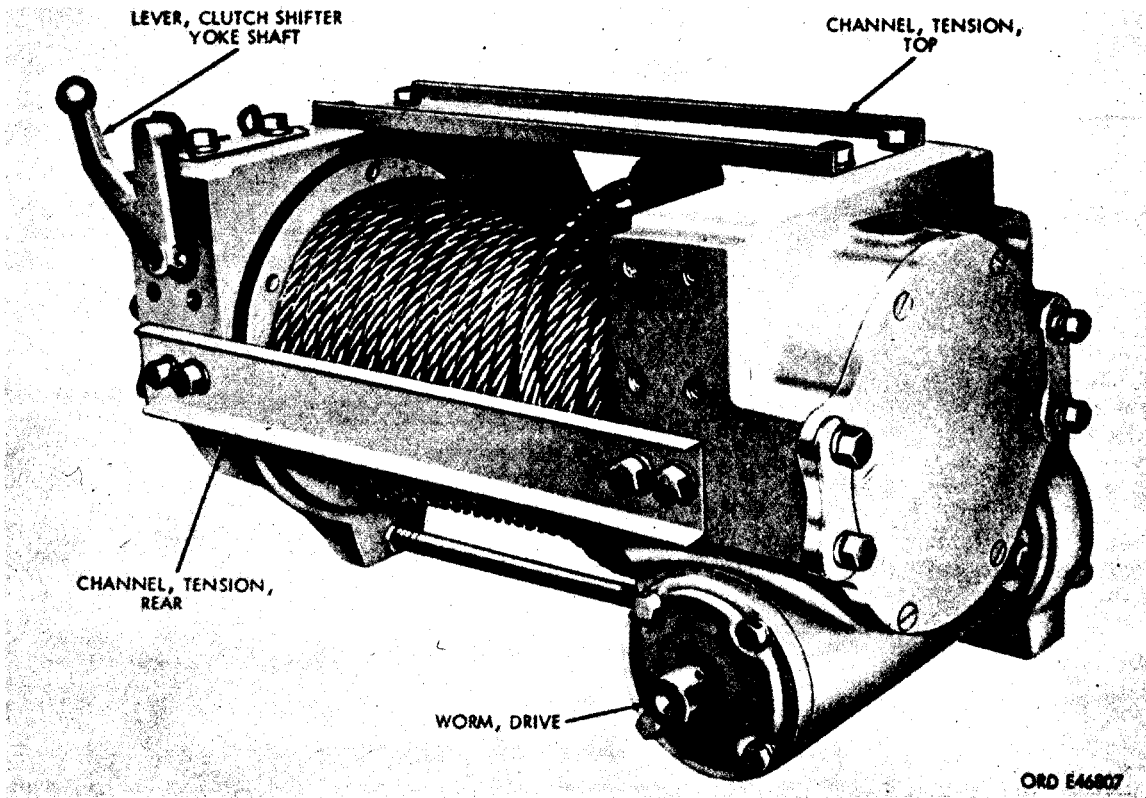

Figure 37. Front winch - right rear view
- (b) Remove two cap screws and lock-washers from each end of rear tension channel and lift off rear channel (fig. 37).